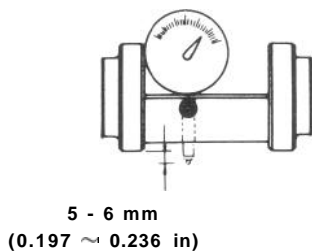

Fig. 16-21-1
- 1) Set dial indicator on dummy, letting the indicator spindle protrude 5 to 6 mm from the bottom of dummy as shown in Fig. 16-21-1.